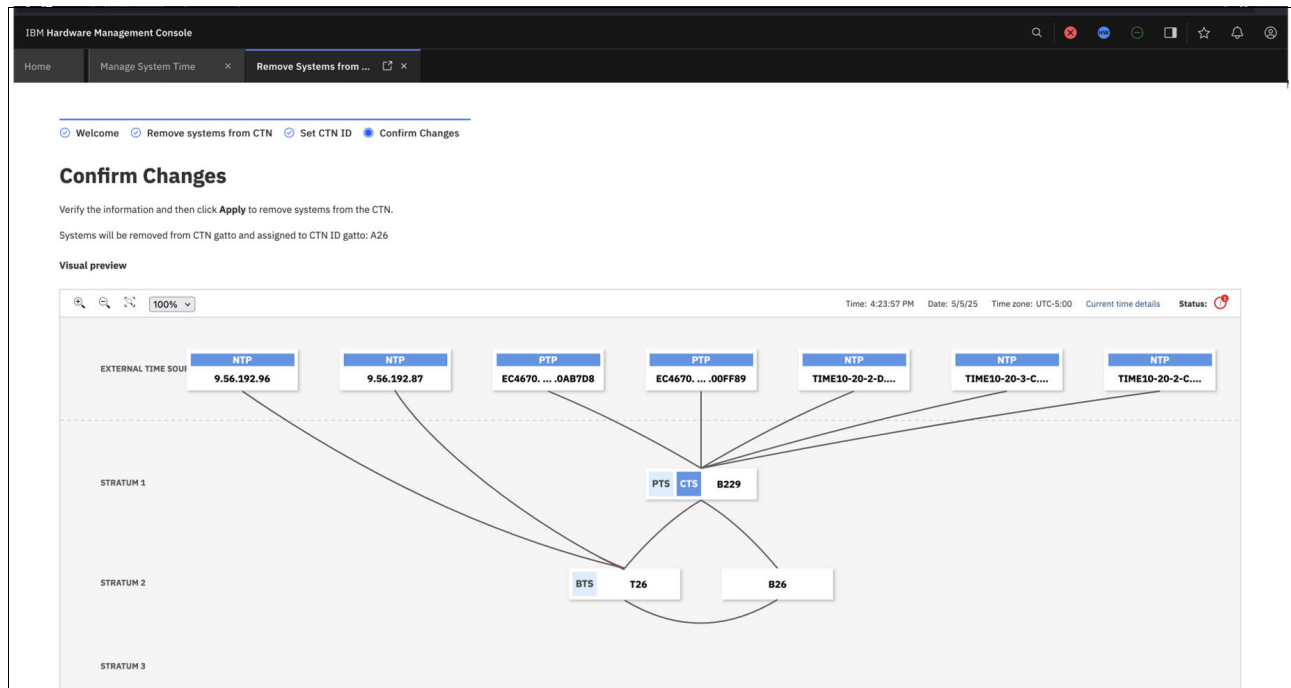

Figure 3-39 Confirm Changes menu
4. The “Confirm Changes” menu is shown as in Figure 3-39 on page 60.